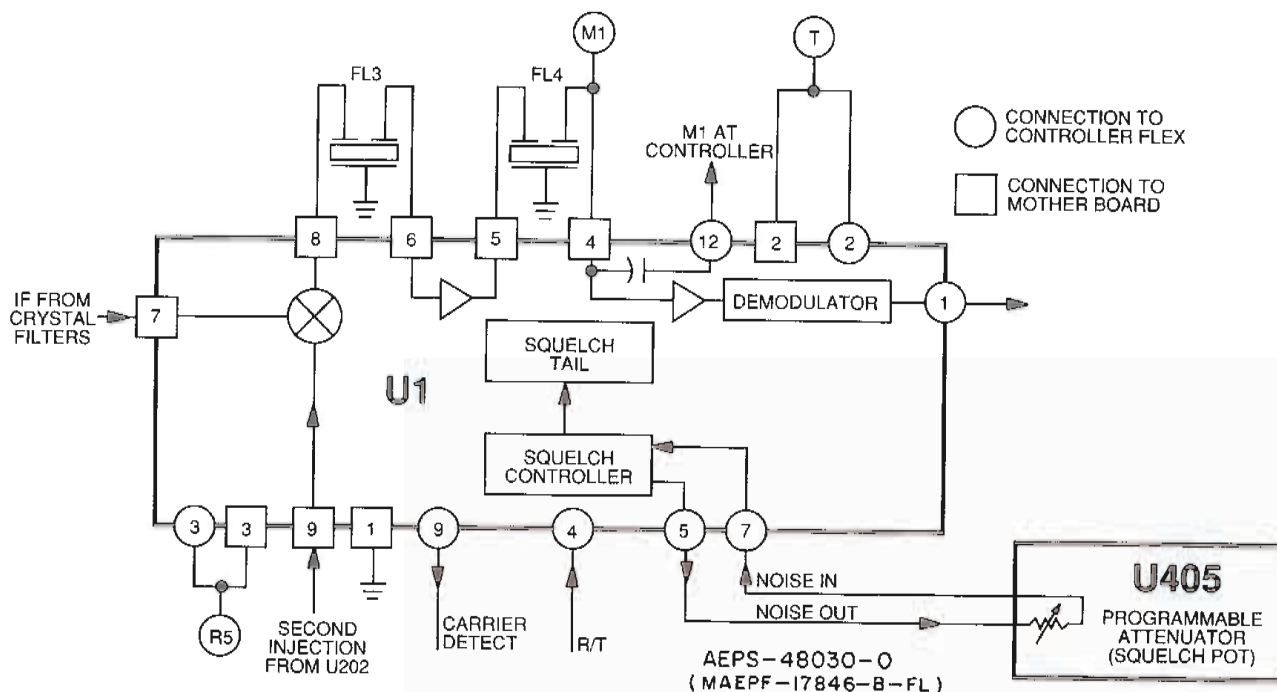

Figure 7. U1, I-F Module
g. Receiver Second I-F and Signal Processing (See Figure 7)